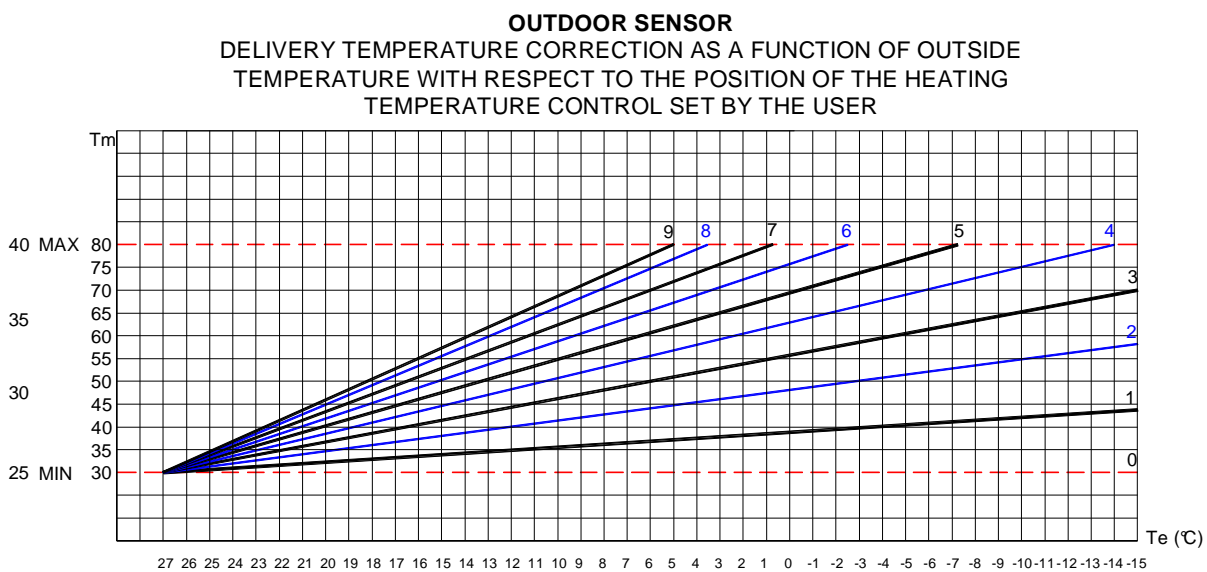

Fig. 1 TM-MAX/MIN = delivery temperature range selected
- In case of outdoor temperature sensor only installation, the climatic compensation curve is set using the central heating control knob. As the knob (see fig. 2) is rotated, the numbers corresponding to the curve shown in figure 1 are displayed
The factors governing the correction is reported in figure 1.